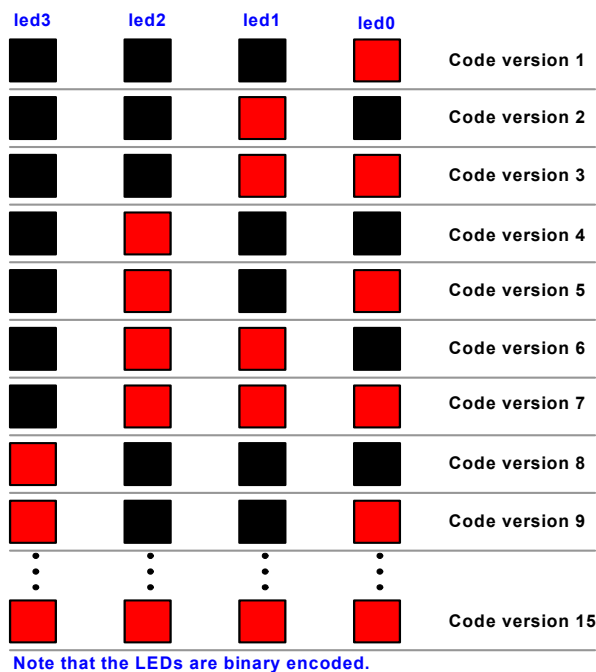
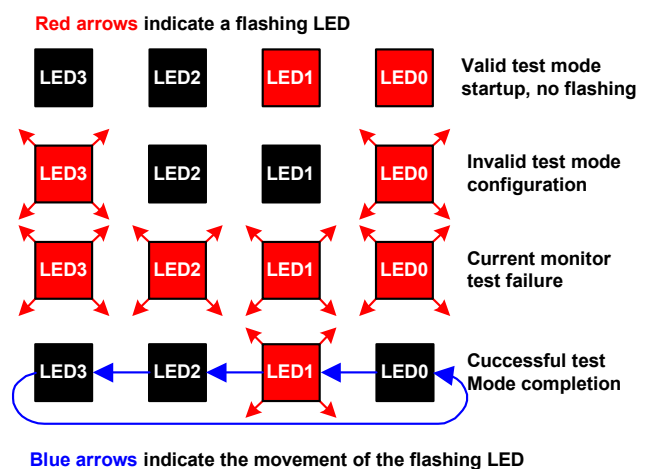

Figure 2. Code Version Numbers
Figure 3. Examples of LED Test Status
7. If LED0 and LED3 are flashing or if no LEDs are on, the test mode was not initiated correctly, the board is faulty, or the microcontroller is not programmed. To confirm, restart the test mode setup. If one or more LEDs are on **without** flashing, the test mode is now active. At this point the binary combination of the on LEDs indicates the **version number** of the firmware (see Figure 2). Figure 3 shows other examples of faulty setup or failed test results.